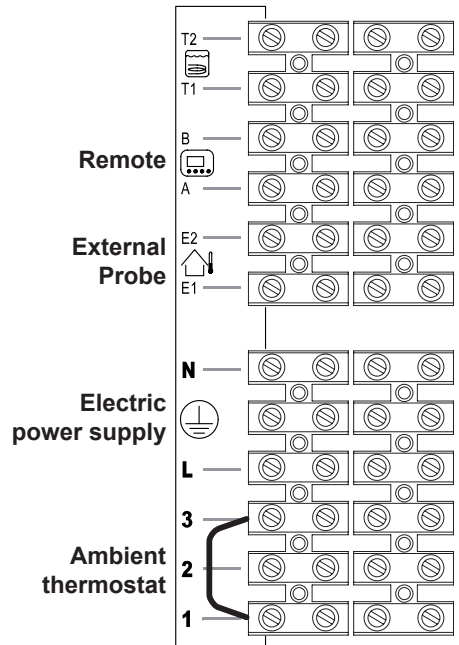
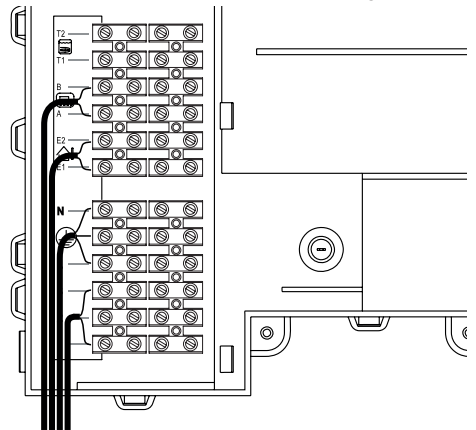
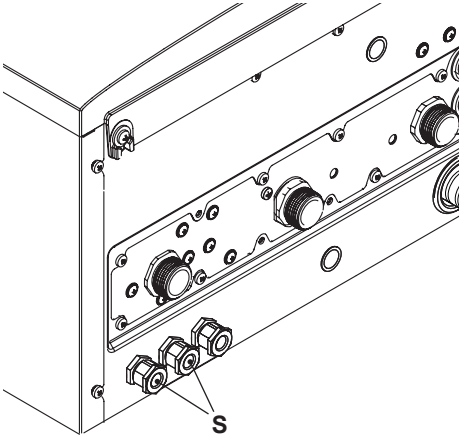

Fig. 6.17
Fig. 6.18
Fig. 6.19
- Connect the electric power supply cable coming from the fused spur isolation switch to the power supply terminal block of the boiler Fig. 6.17 keeping the same connections for the live (brown wire) and the neutral (blue wire). External 3A fuse or fused plug with same current rating is recommended.
The route of the boiler and ambient thermostat's electric power supply cable or wires must follow the route indicated in Fig. 6.18.
Allow the cables to exit the boiler by using the relevant cable clamps S (Fig. 6.19).
Use the clamps indicated in Fig. 6.17 to connect the ambient thermostat.
Use the ambient thermostat's clamps indicated in Fig. 6.17 and Fig. 6.18 to connect the zone valve. Insert the electric cables of the zone valve's micro switch contacts in clamps "1" and "3" of the ambient thermostat's terminal block as in Fig. 6.18.
The route of the boiler and ambient thermostat's electric power supply cable or wires must follow the route indicated in Fig. 6.18. Allow the cables to exit the boiler by using the relevant cable clamps S (Fig. 6.19).
The route of the external probe's connection wires must follow the route indicated in Fig. 6.18.
The route of the remote control cable must follow the route indicated in Fig. 6.18.
relevant cable clamps S (Fig. 6.19).